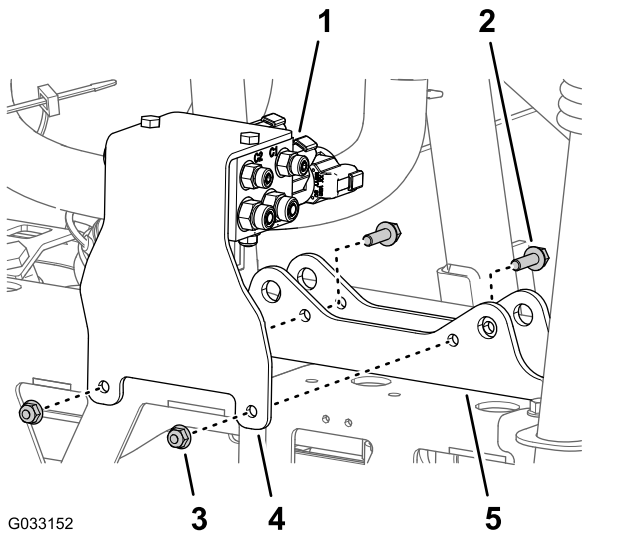

Figure 67
- Remove the 2 flange locknuts (5/16 inch) and 2 flange-head bolts (5/16 x 1 inch) that secure the support bracket for the boom-lift manifold to the cylinder mount, and remove the manifold and bracket from the machine (Figure 67).